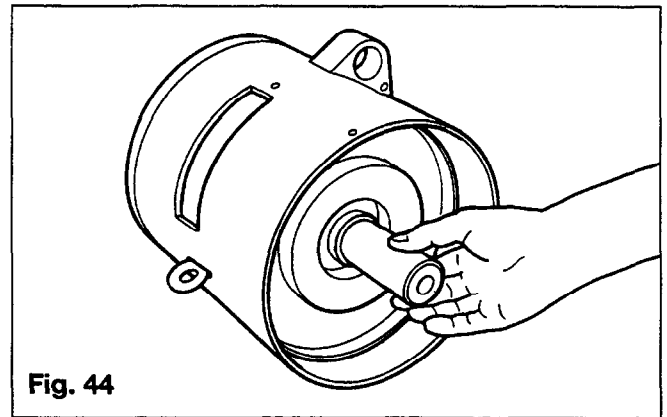

Fig. 44
7. Remove the ball screw cap by slipping it off the ball screw (Figure 44).